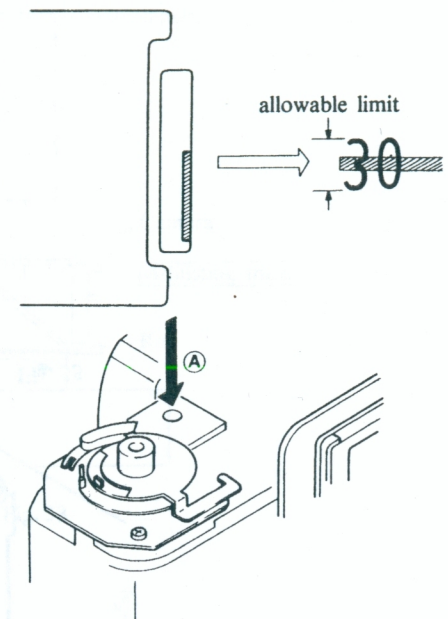

Fig. 57
5. LCD mark (see Fig. 57)
- 5) When the SHUTTER SCALE DISPLAY is out of place, turn the SCREW (A) for adjusting.
- 6) See Fig. 57 for allowable limit of the SHUTTER SCALE DISPLAY.